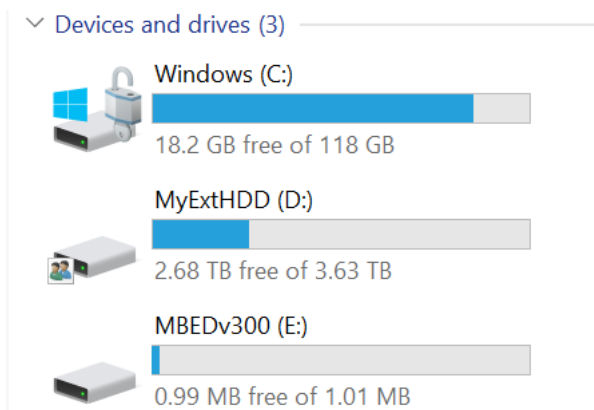

Figure 7: The programmer board displays as a flash drive
4. The programmer board now appears as a flash drive on your PC (labeled as MBEDvXXX); **XXX** is the QPK-NRF5X firmware version number (Figure 7).